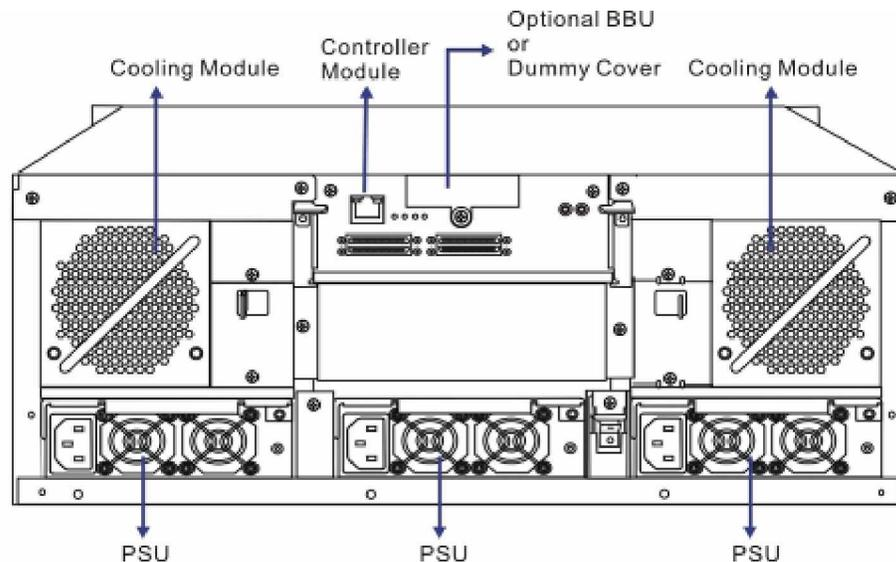
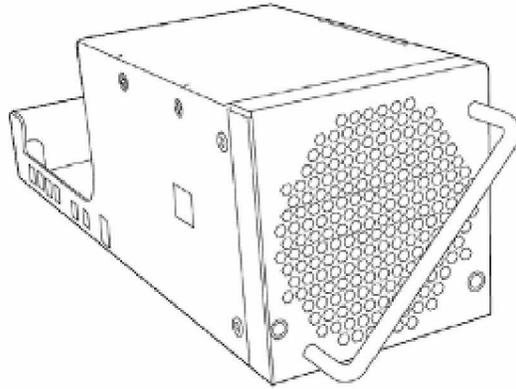

Figure 1-5: Falcon 24 BAY RAID Subsystem Rear View
Figure 1-11: Cooling Module
The rear panel of the 24 BAY subsystem is shown in *Figure 1-5*. The rear panel provides access to all the components located in the rear half of the RAID subsystem enclosure.
The 24 BAY subsystems come with two (2) hot swappable, redundant, dual-fan cooling modules (shown in *Figure 1-11*) pre-installed in the subsystem. Two (2) 8cm blowers are housed in each cooling module and provide ventilation airflow. These modules generate a cooling airflow from the front to the rear of the subsystem, extracting the heat generated by the SATA hard drives. The two (2) cooling fan modules are installed directly above the PSUs. (See *Figure 1-5*).